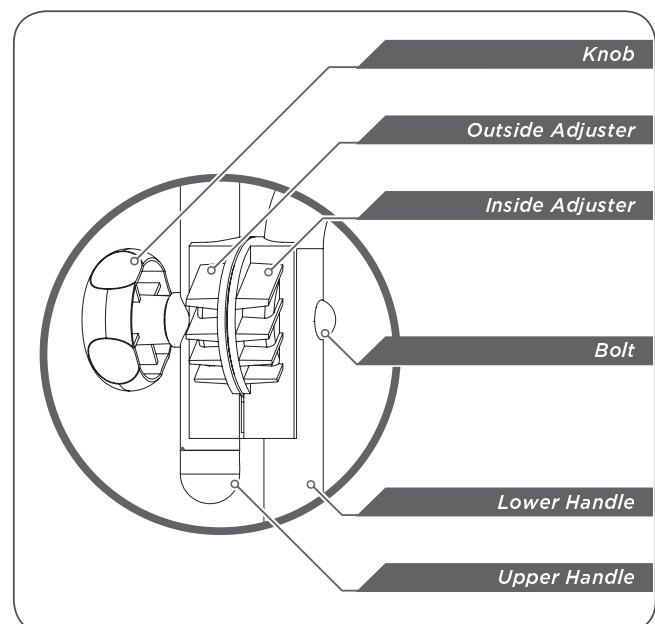

Figure 3b
2. Secure the two parts of the handle together with the handle adjustment knob assembly. Refer to **Figure 3b** for the correct order of assembly.